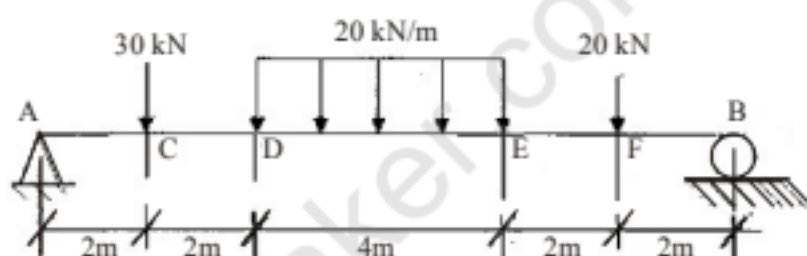

Fig. 3
8. Draw shear force and bending moment diagrams for the beam loaded in Fig. 3. Label the salient points.